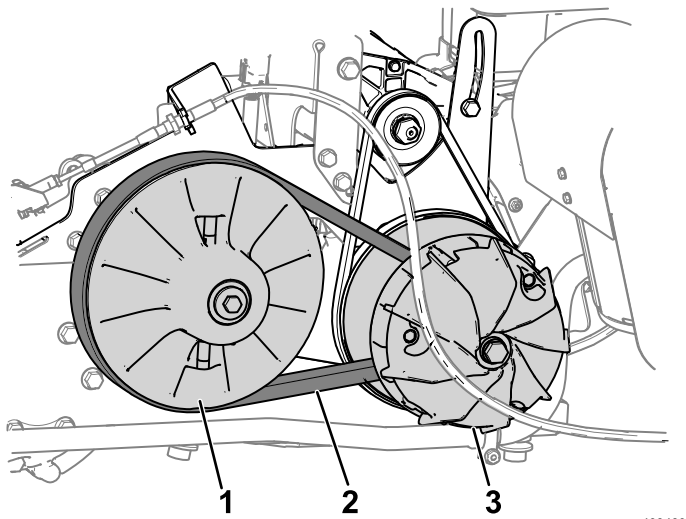

Figure 56
2. Rotate and route the belt over the secondary clutch (Figure 56).
3. Remove the belt from the primary clutch (Figure 56).